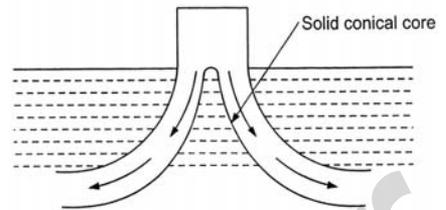

Fig. 4: Moody's spreading draft tube of 'Hydrocone'
- Figure 4 shows a Moody's spreading draft tube.